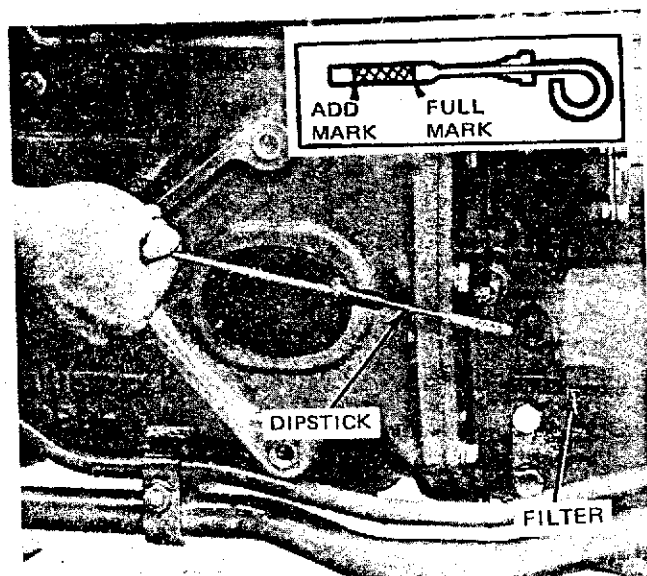

Figure 28 — Engine Oil Level Dipstick and Filter
1. With the tractor standing level, and after the engine has been stopped for a period of time, check the oil level with the dipstick, Figure 28.
2. Unscrew the oil filter, Figure 28, catching the used oil in a suitable container placed below the filter. Discard the filter.